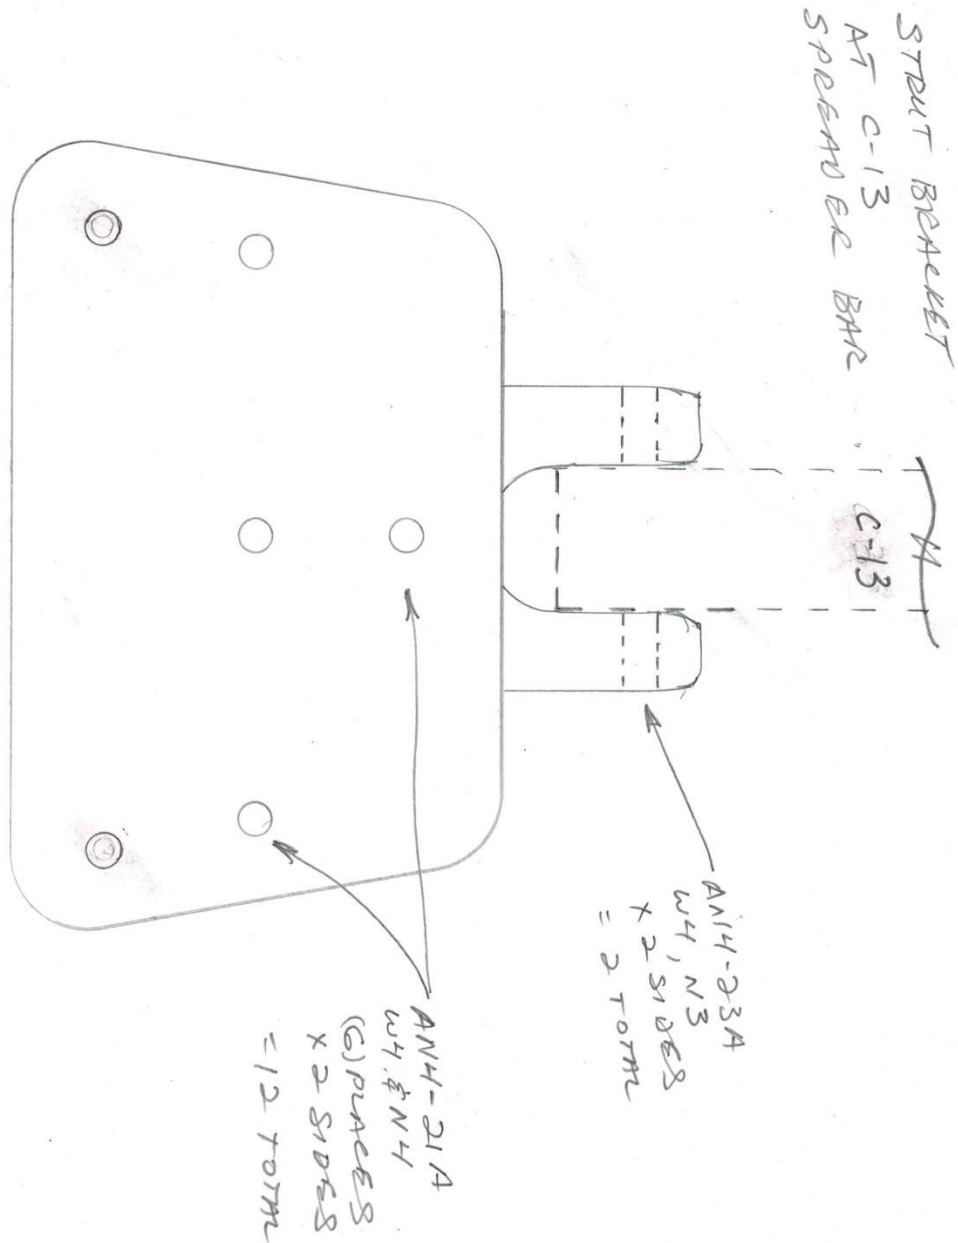
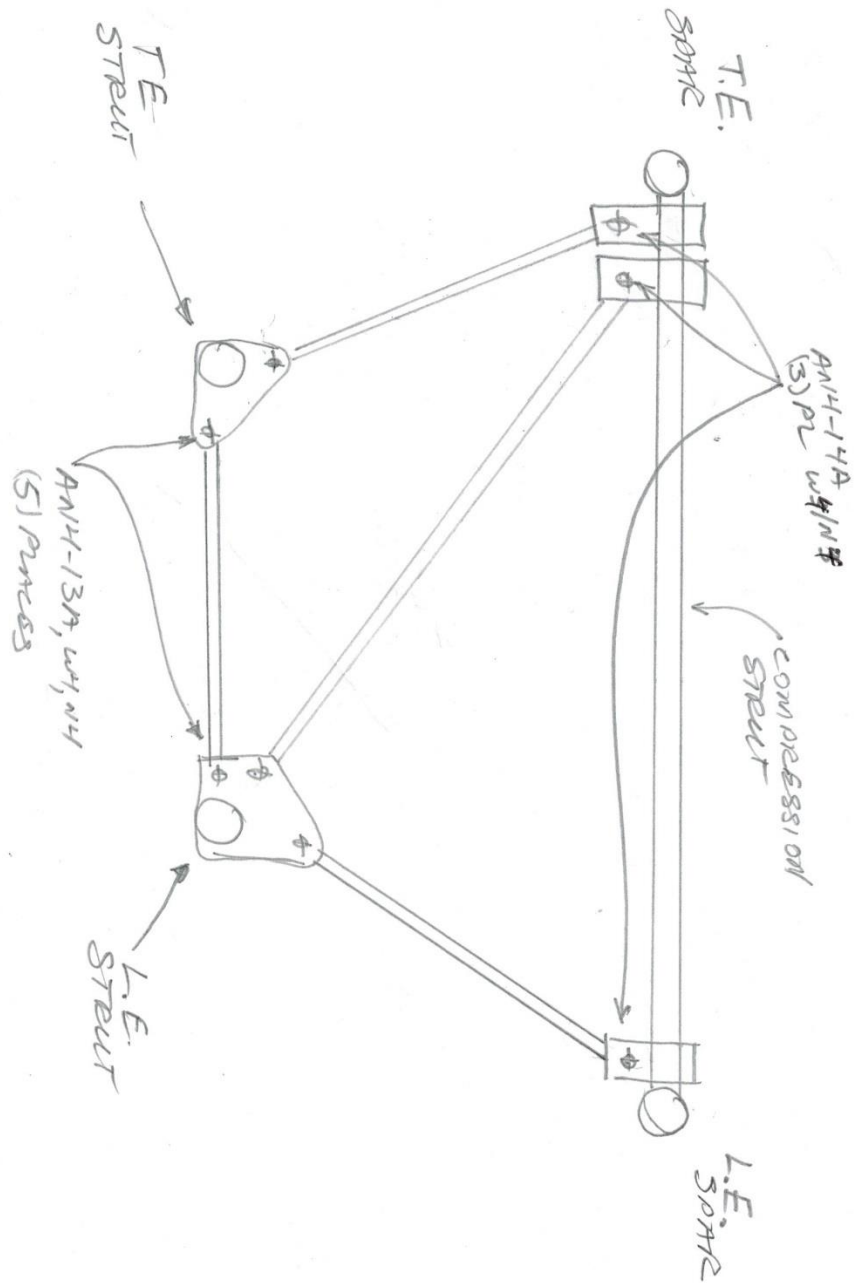

Figure 3- Wing Strut Attachment Block and Plates
Figure 4- Jury Strut Installation
STEP 2: Install the jury strut welded assemblies on the wing struts themselves. The front and rear jury strut attachment plates are shown in the following images. Slide them about halfway down the wing strut, they will sit approximately 62 inches from the inboard end or 52 inches from the outboard end. They should line up such that a jury strut can be bolted between the front and rear strut. If not, then flip them from left wing and right wing until they line up correctly. The plates themselves should point up toward the second inner most compression tube that has the u-shaped brackets that you installed earlier in the wing assembly process. Figure 4 will provide guidance on the proper orientation.
STEP 4: Locate the W51 Strut attachment plates and W50 Strut attachment blocks. Bolt together using the hardware shown in Figure 3. Install the plates onto the inboard end of the wing struts. The installation should look like the following image. Install only 4 of the AN4-21A bolts to start with. You should end up with only one bolt in each of the wing strut. The second bolt will be installed after the strut is attached to the wing. The final hole has a 3/16" pilot hole which will need to be drilled to match the strut after the struts are installed on the aircraft wing.
STEP 5: Bolt the W50 Strut Attachment Block and strut assembly to the C13 Spreader Bar using the AN4-23A bolt and hardware shown in Figure 3. It should look like the above image.
STEP 1: Bolt the jury struts into place as shown in Figure 4. This will only work one way. The lengths of the tubes are sized to correctly bolt to each bracket. Keep the hardware loose until all of the struts have been installed and then tighten into location.
STEP 2: For attachment to the U-shaped brackets on the compression tube you will need to use a hot knife or soldering iron to cut slits in the wing fabric to facilitate installation. Make sure you pay attention to the orientation of the jury struts in relation to the Leading Edge (LE) and Trailing Edge (TE) spars.
STEP 3: Install the remaining two bolts on the wing strut attachment points near the cockpit. You will need to drill the holes to ensure proper alignment. A pilot hole is provided to help. Reference Figure 3 for the remaining bolt locations.